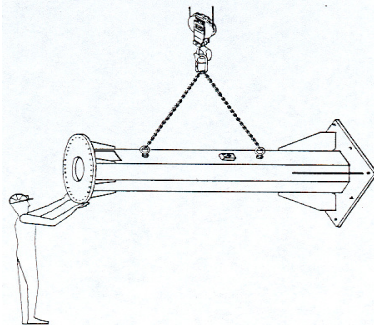

fig.8
- Handling the components, with suitable equipments in the handling points (fig.8) and move the parts of the crane and its accessories very carefully, to the zone allocated for unloading and avoid oscillations, swinging and dangerous unbalancing.